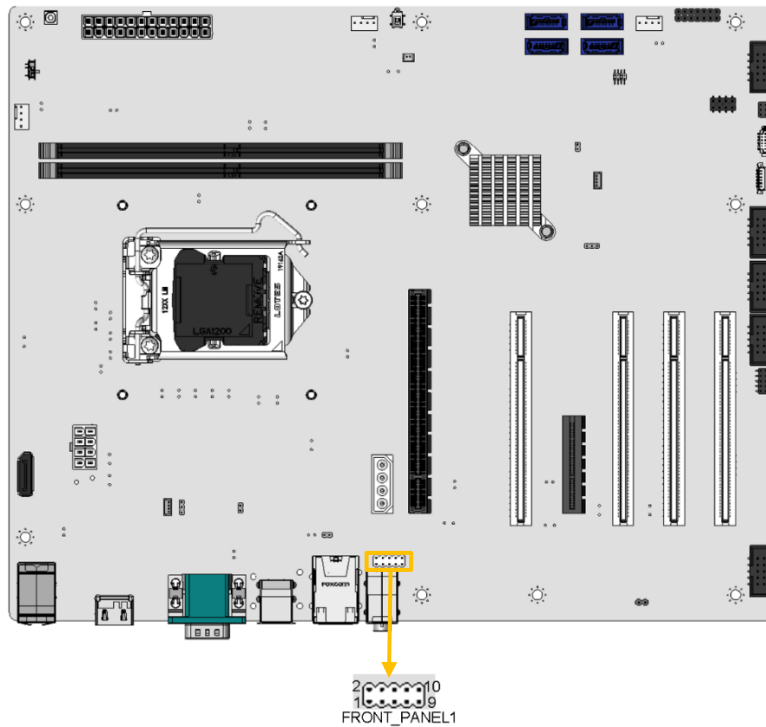

Figure 3-13: Internal Audio Connector Location
- CN Location:** See Figure 3-13